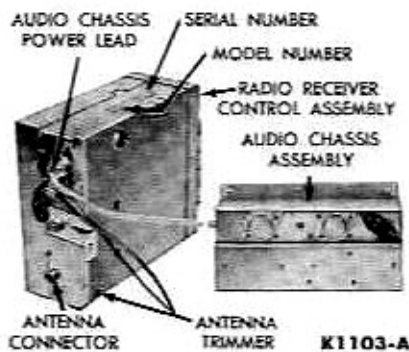

FIG. 4—Serial Number, Antenna Connector, and Trimmer Locations
and is the prefix to the serial number stamped on the side of the receiver (Fig. 4). The receiver uses four tubes plus two power transistors.
The antenna connector, "A" lead, pilot light lead, and audio chassis power lead are at the back of the receiver (Fig. 4). The antenna trimmer adjusting screw is accessible through a hole in the bottom of the receiver (Fig. 4). The speaker lead plugs into a socket which is mounted on the audio chassis assembly (Fig. 4).
2. Disconnect the audio chassis cable from the receiver control chassis (Fig. 4).
4. Route the speaker lead along the tunnel and behind the instrument panel to the audio chassis and plug it into the speaker outlet socket (Fig. 4).
5. Route the antenna lead-in through the existing windshield wiper hose grommet above the heater, and plug it into the antenna socket at the back of the receiver control assembly (Fig. 4).
Extend the antenna to its maximum length. Remove the radio access plate. Tune in the weakest station between 12 and 16 on the dial and reduce the volume until the station is barely audible. Turn the antenna trimmer screw, Fig. 4, slowly in either direction until a peak of volume is reached.